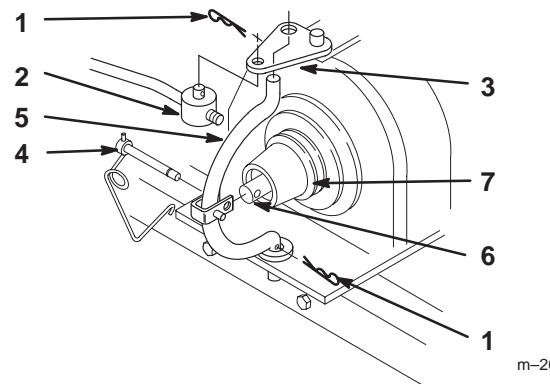

Figure 15
18. Remove hairpin cotters from trunnion and bottom of yoke (Fig. 15).
19. Unlatch and remove locking clevis pin that secures yoke assembly to clutch shaft. Pivot yoke out and forward to remove from clutch shaft and engagement plate (Fig. 15).
20. Place snowblower belt in outer pulley groove (Fig. 15).
21. Assemble yoke and engagement plate and attach locking clevis pin, trunnion and hairpin cotters to secure (Fig. 15).